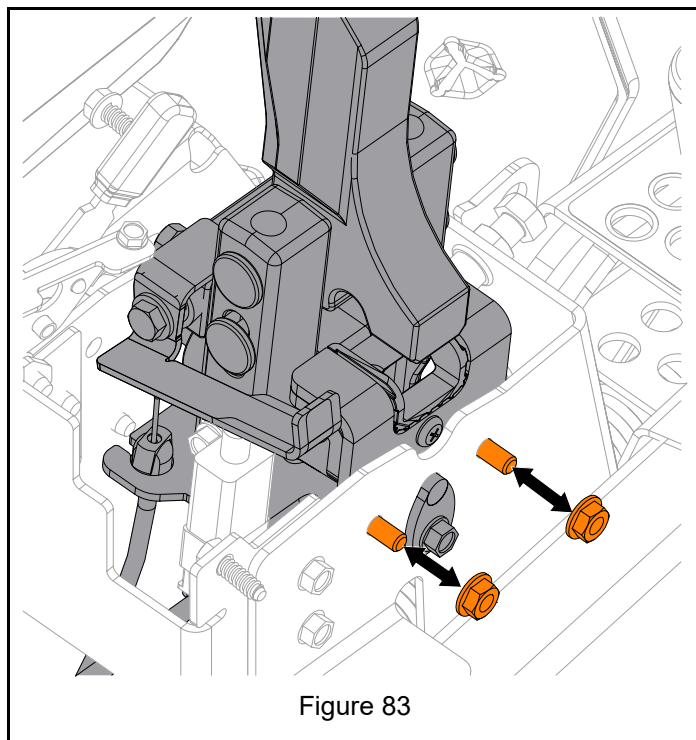

Figure 83
3. Remove two flange nuts retaining arm to steering bracket. See Figure 83.
7. Reinstall upper steering arm to pivot bracket on lower steering arm using two tapping screws. See Figure 83.